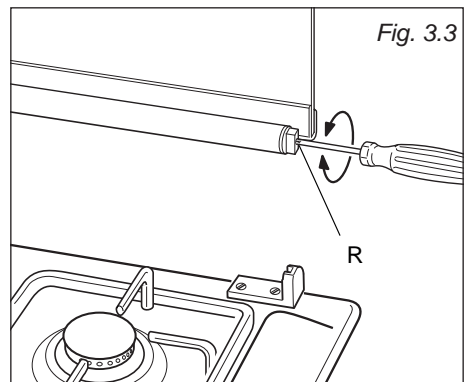

Fig. 3.3
- Close the lid and check the correct balance; if laid on 45° position it should stay hanging. If necessary, set the calibration of the hinge springs operating on the screws (R) (fig. 3.3).